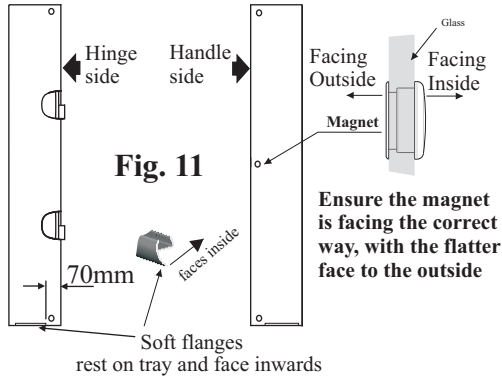

**Fig 10**
**4.2** Insert large side panel into wall profile glass clamps (see Fig.10) with the soft seal onto the tray and the fitted corner bracket to the front. Move the panel in or out until the corner bracket is spaced equal distance from the front edge of the tray as it is from the side face of the tray. Ensure the panel is vertical then fully tighten the 3 glass clamps screws using 2.5mm allen key supplied see Fig 17. If after adjusting for vertical, the corner bracket is not seated firmly on the tray, loosen grub screws and tap the bracket down onto the tray (caution - do not exceed 5mm adjustment on this bracket) Pack between bracket and tray if you require more adjustment.